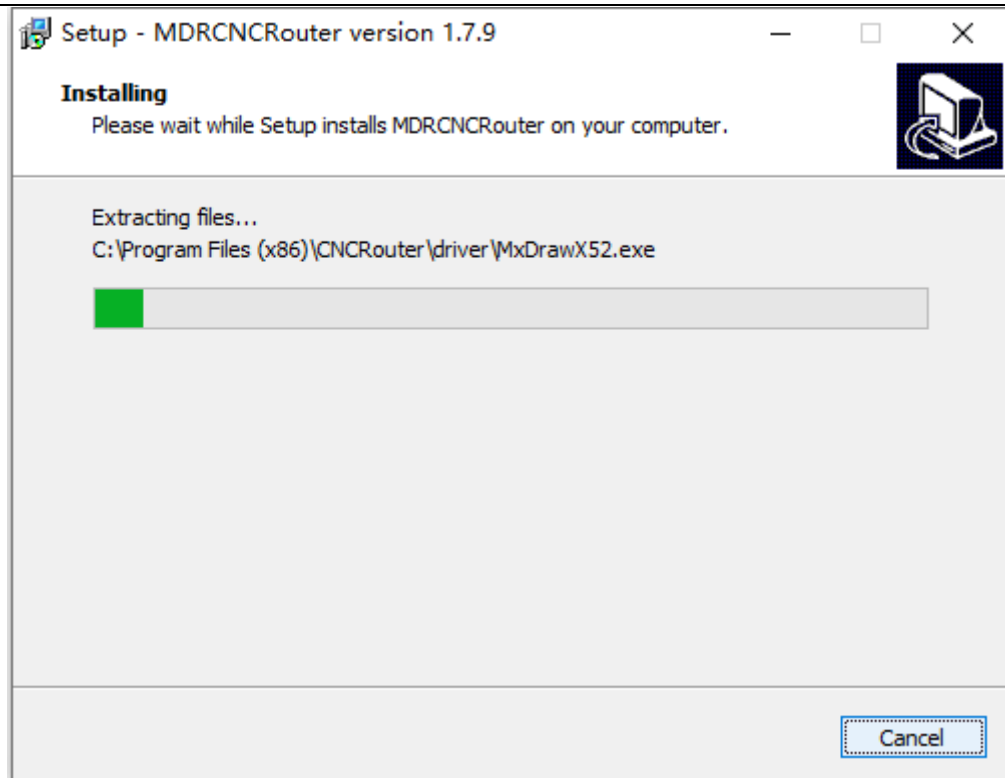

Figure 2.2-5
(7) Click Install, the CNC-Router system computer software will start installation, the installation progress will be displayed during the installation process, if you need to cancel the installation, click Cancel. As shown in Figure 2.2-5: